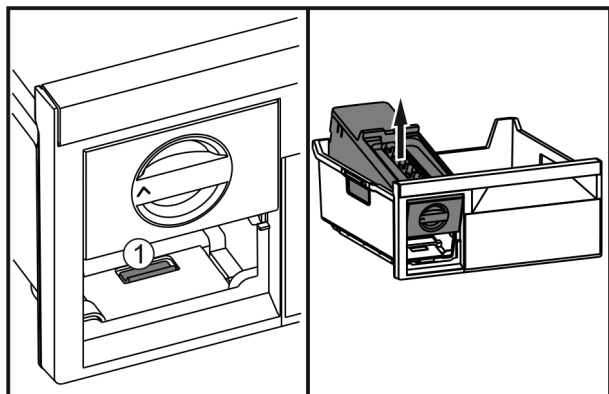

Fig. 30
- ▶ Press the lug Fig. 30 (1), lift up the EasyTwist-Ice at the back and take it out of the freezer drawer.